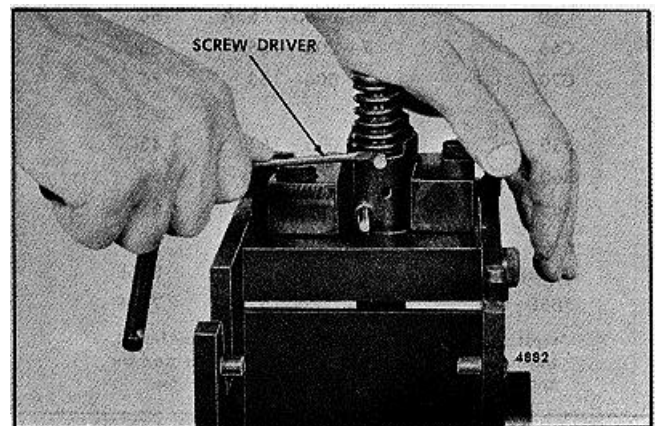

FIG. 9 Removing Injector Follower Stop Pin
2. Compress the follower spring. Then raise the spring above the stop pin with a screw driver and withdraw the pin (Fig. 9). Allow the spring to rise gradually.